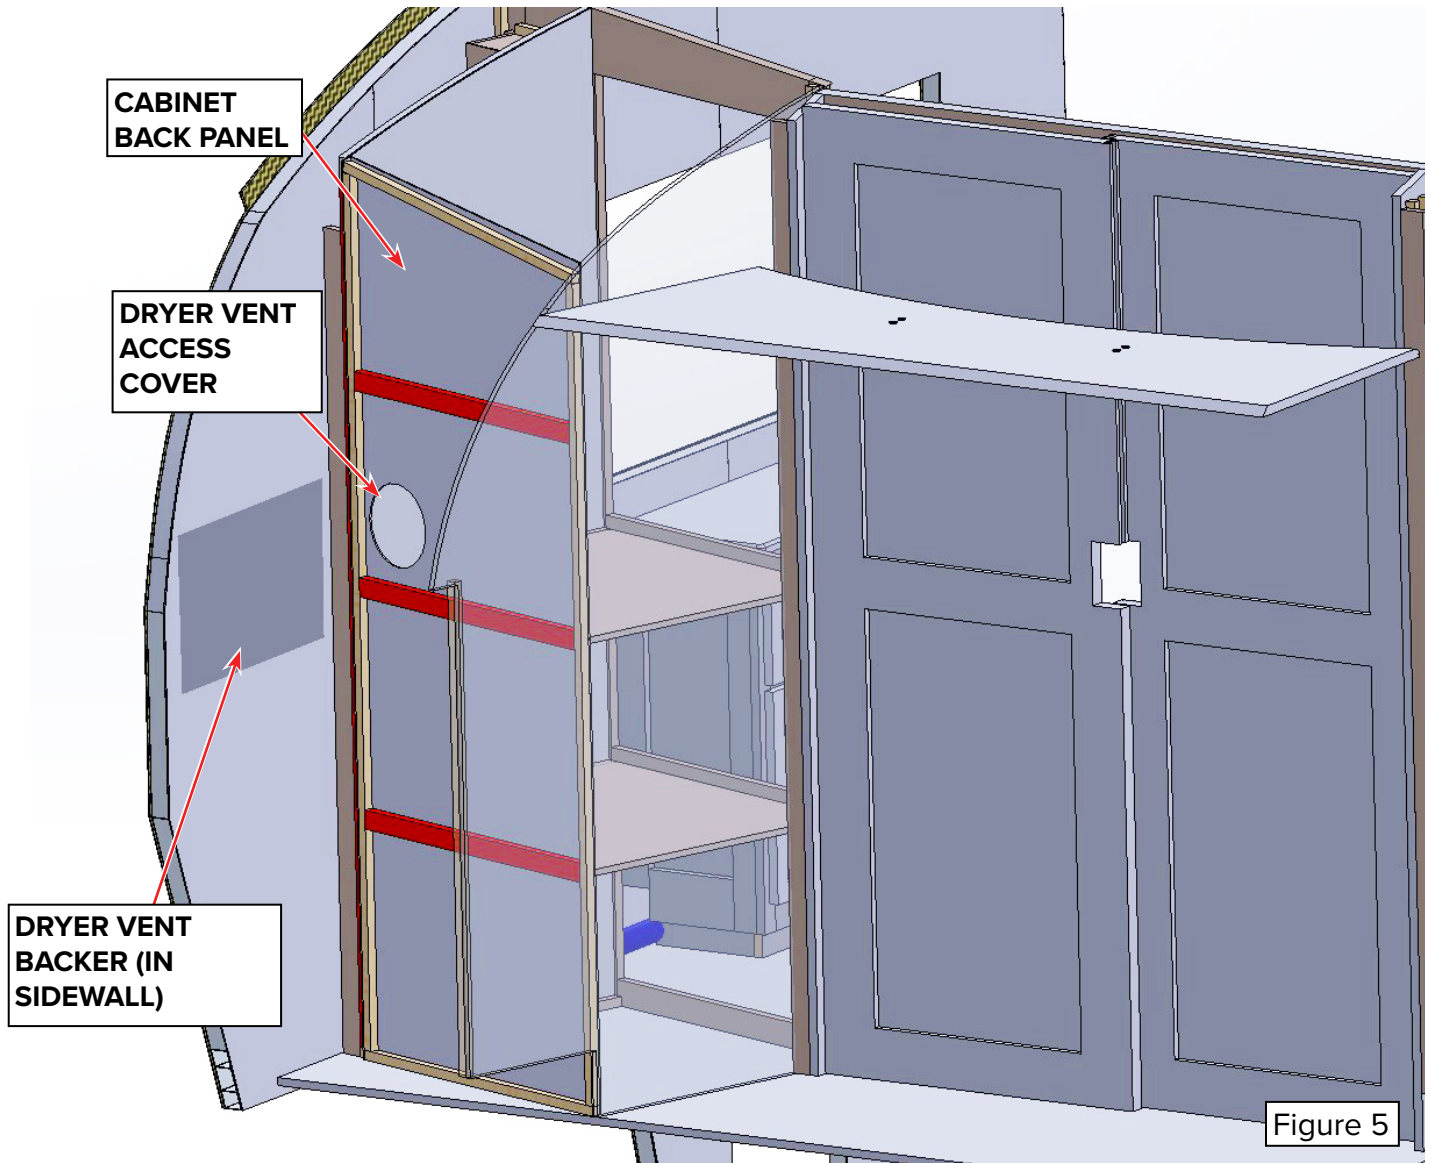

Figure 5
- Most floor plans are designed to route the dryer vent hose through the back wall of the cabinet (Figure 5) and out the side of the RV. The dryer vent (Figure 6) access cover allows for tools to bore the vent hole in the exterior skin and route the hose to it. The sidewall has a backing plate (part of the sidewall structure that is not visible) where the hole will be bored, and the screws holding the exterior vent cover in place are installed outside the RV. This location will be marked with a sticker like in Figure 6.